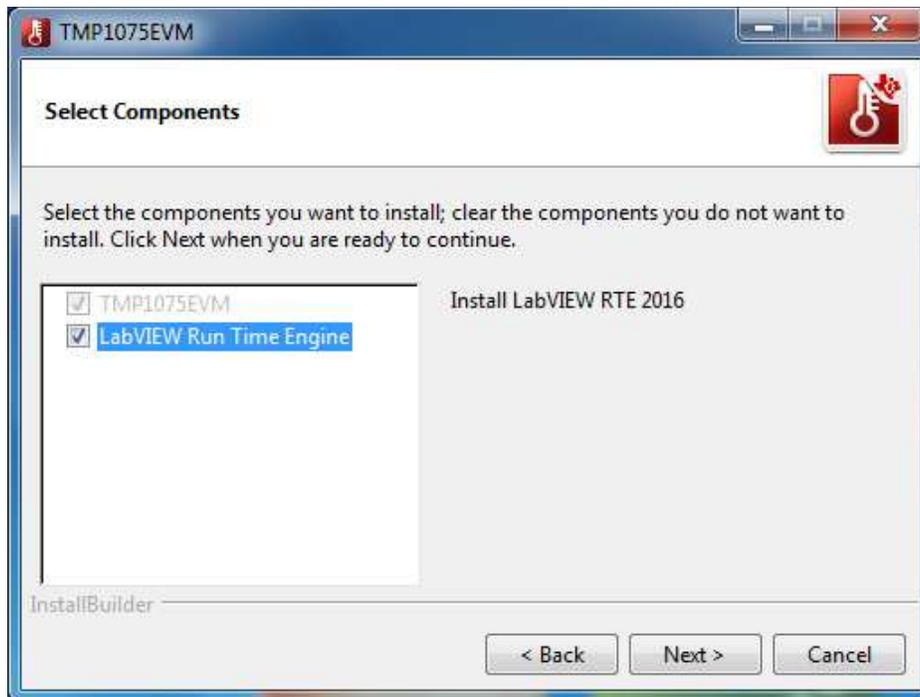

Figure 9. TMP1075EVM Select Components Installation
- For first-time installation, ensure the *LabVIEW Run Time Engine* is listed in the following summary as shown in Figure 9. TMP1075EVM GUI is required LabVIEW 2016 f5 runtime engine for proper operation. Once the *Next* button is clicked, the progress bar opens and shows the installation of the software. It may take some time to download the LabVIEW Run Time Engine on the first installation. Users may be prompted to download the file when installing the software for the first time, especially if the *LabVIEW Run Time Engine* checkbox is checked.